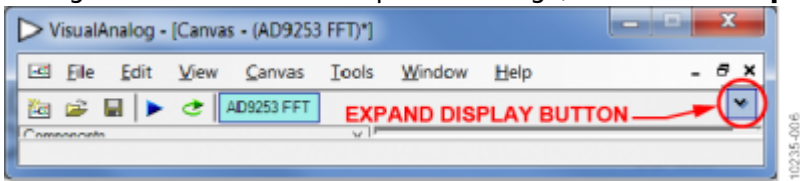

Figure 5. VisualAnalog Window Toolbar, Collapsed Display
- located on the bottom right corner of the window (see Figure 5), to see what is shown in Figure 6.